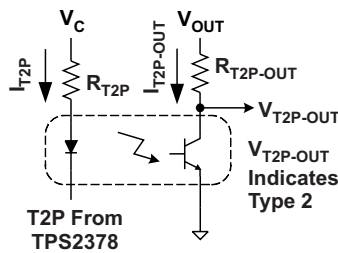

Figure 25. T2P Interface
- As shown in Figure 25, let  $V_C = 12\text{ V}$ ,  $V_{OUT} = 5\text{ V}$ ,  $R_{T2P-OUT} = 10\text{ k}\Omega$ ,  $V_{T2P-OUT} = 400\text{ mV}$